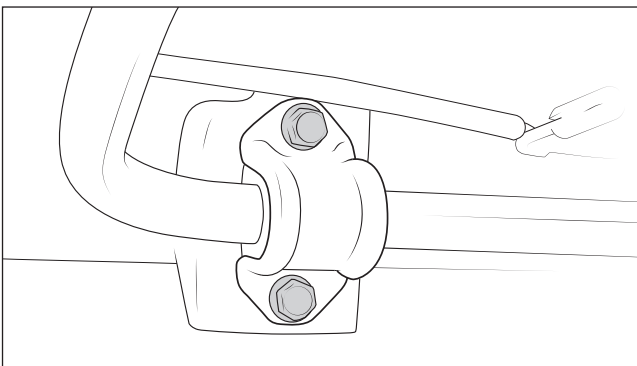

Figure 3
10. Remove the left side sway bar bolts from the axle (fig. 3).